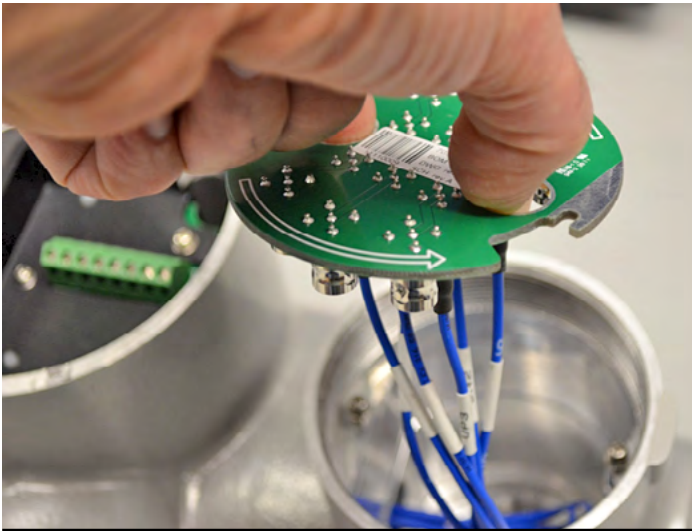

Figure 18: Removing the board
2. Inside the wiring area of these two enclosures is a round printed circuit board with two mounting screws. Loosen the mounting screws, insert your fingers in the two 1-cm round holes, and twist the board counter-clockwise (in the direction of the arrows) approximately 2 cm to release it from the enclosure (see Figure 18 below). The board will remain wired to the system, but with enough slack to pull the board out about 5 cm. The transducer connections are on the other side of the board.